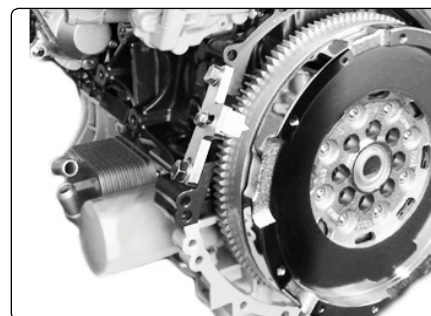

fig.1
- 5.1.1. Remove the starter motor and fit the VSE5640.01 Flywheel Locking Tool using the bolts provided. (fig.1)